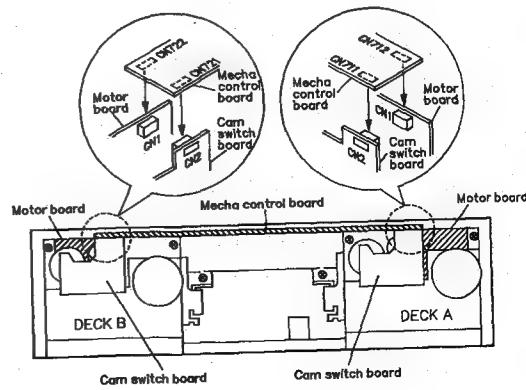

Fig. 2-4
a) Mechanism ass'y side (Fig. 2-4)